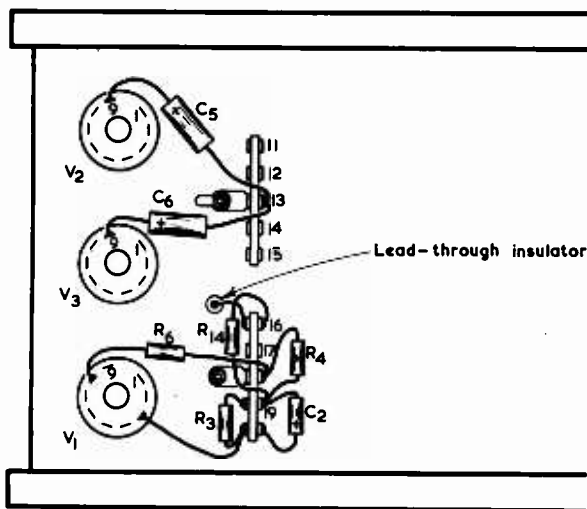

Fig. 10. The components which are fitted prior to the installation of VR2/S1
23. We next turn to Fig. 10. Connect the positive lead-out of C5 (80 μ F) to pin 9 of V2 and the negative lead-out of C5 to tag 13. Solder at pin 9 of V2. Connect the positive lead-out of C6 (80 μ F) to pin 9 of V3 and the negative lead-out of C6 to tag 13. Solder at pin 9 of V3 and at tag 13. Connect the lead-through insulator adjacent to tag 16 to tag 16 (lower). Solder at the insulator and at tag 16 (lower).